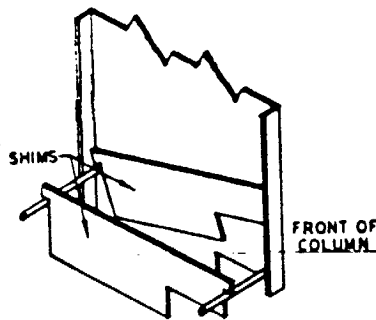

Figure 2
3. Install Shim as shown, Fig. 2 Shim rests on shim hanger rods, front and rear.